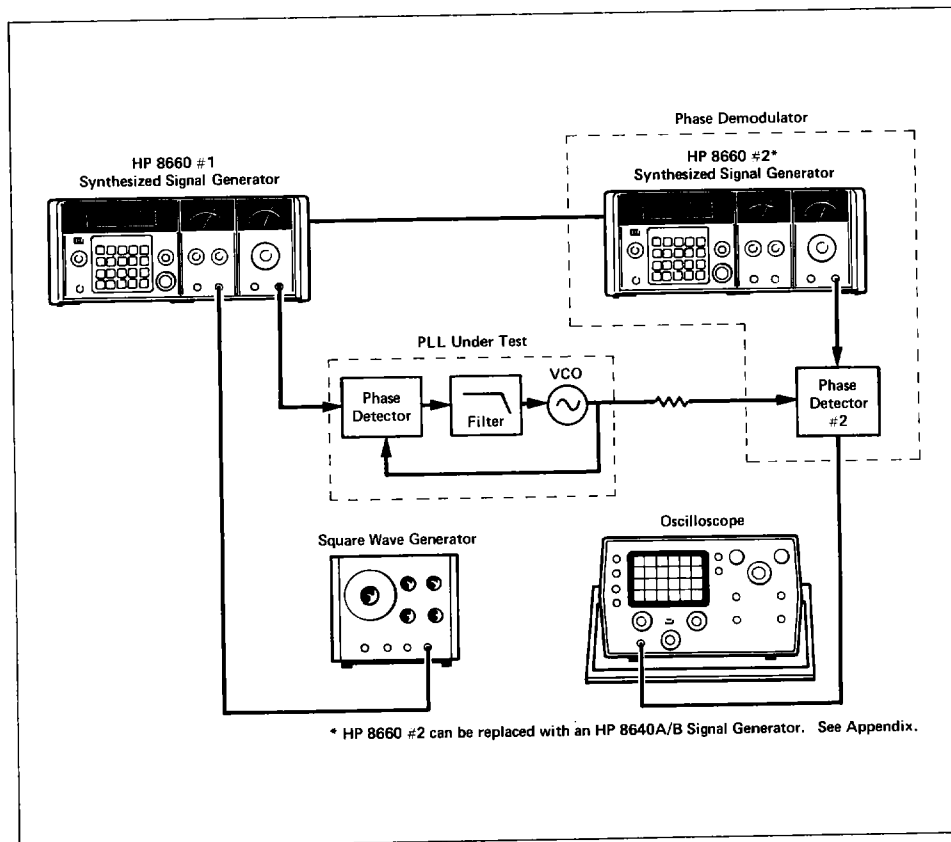

Figure 10. PLL Transient Analysis Test Setup.
In many applications it is desirable to measure a phase lock loop's response to transients in order to determine such parameters as rise time, overshoot, damping factor, etc. The test setup shown in Figure 10 can be used to obtain PLL response for step changes in phase. With calibrated phase modulation the size of the phase steps can accurately be controlled to ensure operation in the linear region of the PLL under test and of phase detector #2.
1. Connect the equipment as shown in Figure 10. Connect both 8660's to the same frequency standard so that they are frequency coherent.